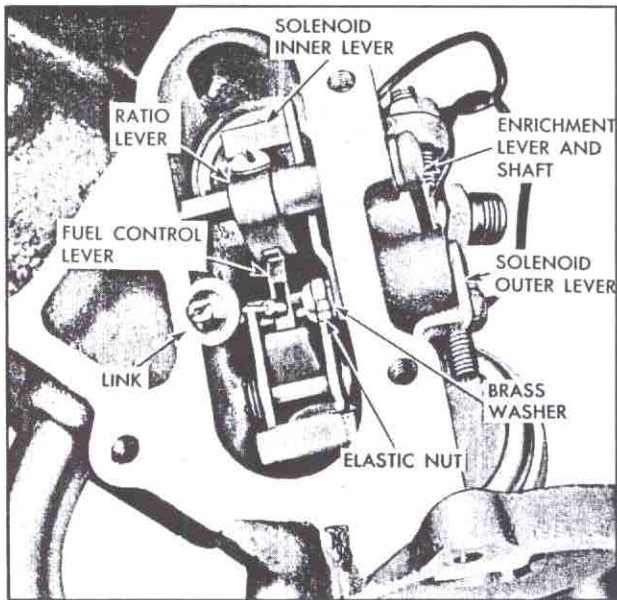

Fig. 147—Fuel Control Components
5. Position small brass washer (fig. 147) and solenoid inner lever on the outer lever shaft inside fuel meter and secure inner lever with $\frac{1}{4}$ " elastic nut.
6. Position ratio lever (fig. 147) inside fuel meter, then insert enrichment lever shaft through side of fuel meter and through ratio lever. Be sure enrichment lever shaft is inserted its full distance and that ratio lever is centered over fuel control lever, then tighten set screw in ratio lever.